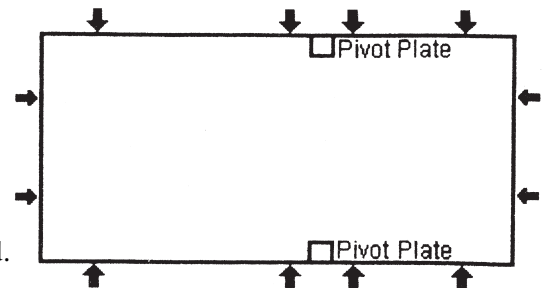

Fig. 6
Step 4 Permanently mount the stairway using 16d nails or 3" lag screws in the locations shown in Fig. 6.